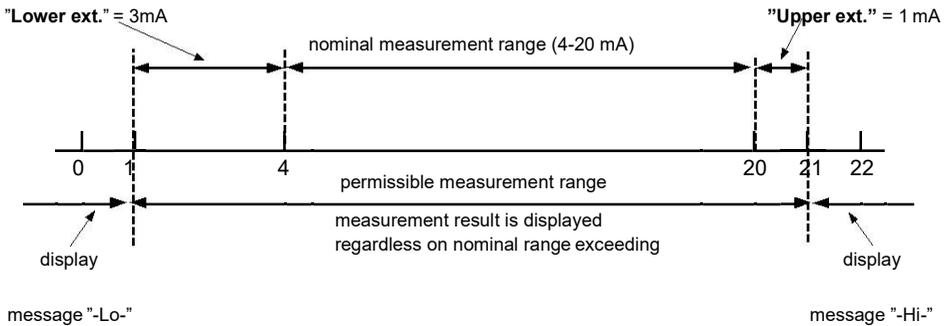

Fig. 7.14. Defining permissible measurement range for an example of settings of **"Upper ext."** and **"Lower ext."** parameters (for nominal measurement range 4-20 mA)
**"Upper ext."** - parameter defining the allowable range of input currents (Fig. 7.14).